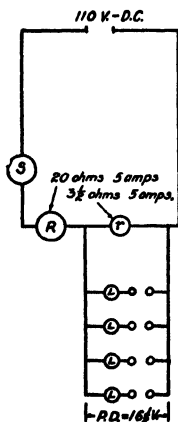

FIG. 21.
b. Each of four wide glass tubes is fitted up as follows: The lower end is closed tightly with a two-holed rubber stopper, through which pass an electrode and a small tube with stop-cock and nozzle. The upper end is also plugged with a two-holed stopper through which pass loosely a long narrow tube enclosing a second electrode and a funnel for use in filling the tube. The four tubes are fixed upright on a board side by side, and each is connected up with a direct-current circuit and a signal lamp (Fig. 21). The tubes are now filled with tenth-normal solutions of (1) hydrochloric acid, (2) acetic acid, (3) sodium hydroxide, and (4) ammonium hy-
20-ohm resistance and a 3.5-ohm resistance on a 110-volt circuit (Fig. 21, diagrammatic), the potential drop over the lower resistance will be about 16.5 volts. If these resistances be of sufficient carrying capacity (say, 5 amperes), then four different current outlets may be provided — each one with plenty of current for one of the electrolytic cells previously described. Each of these outlets is in series with a small battery lamp, used as an indicator of the flow of current through the cell (Fig. 21).